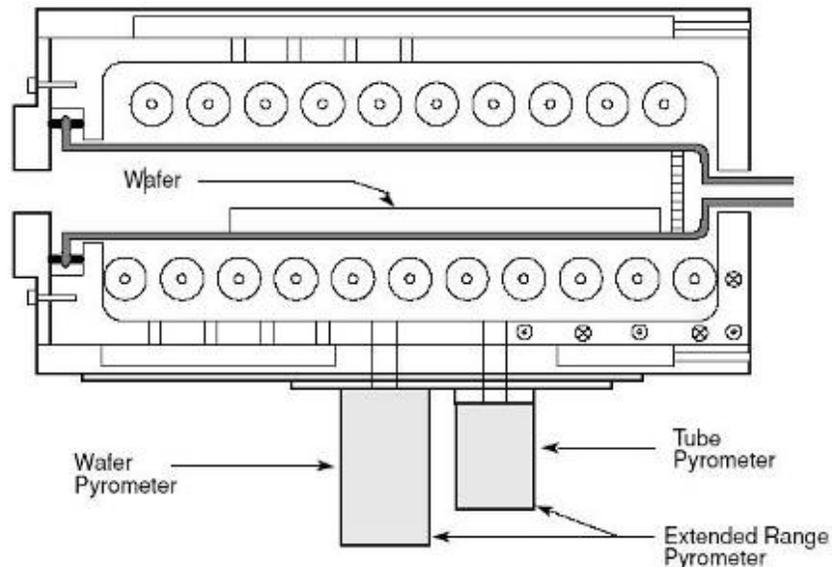

Figure 9-2: *Extended Range Pyrometer*
- **Wafer Pyrometer:** The wafer-sensing pyrometer measures wafer temperature by "looking" at the wafer through the quartz isolation tube. During wafer processing, the heating of the isolation tube causes the wafer temperature measurements to "drift". To minimize this problem, a proprietary "pyrometer window" has been installed into the bottom of the quartz isolation tube. Mounted below a small aperture in the bottom plate of the AccuThermo RTP system heating chamber, the Wafer Pyrometer measures wafer temperature through this opening. (See Figure 9-2.)